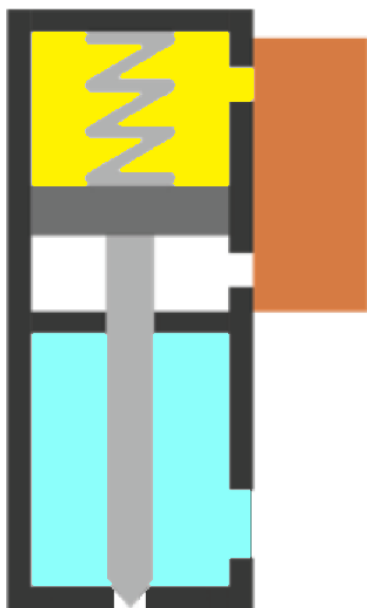

Figure 03 – Resting phase
- The fluid is in the special chamber ready to exit, but the hole is closed by the needle which is held in position thanks to the pneumatic pressure that is piloted by the solenoid valve 5/2 (Figure 03);
- The air, together with the spring, push the piston downwards, closing the product outlet hole (Figure 03).